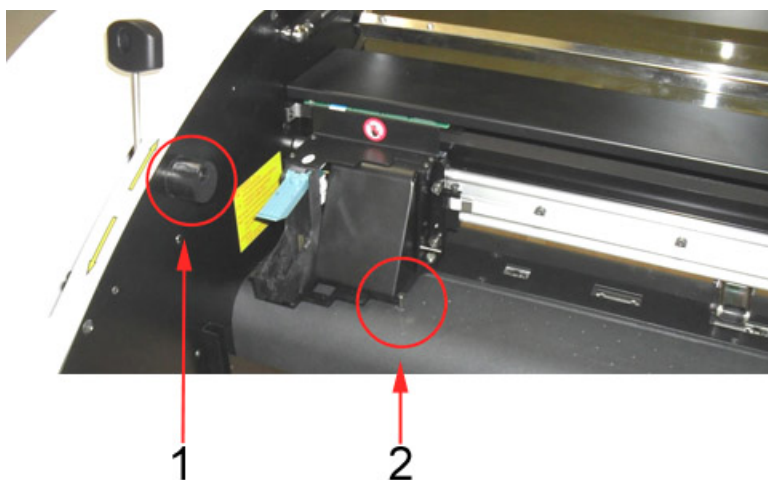

Figure 12. Left side Rubber Stop and Screw
11. During shipping, the **Front Cover** can shift and sometimes lose its alignment. If it is not lying flat, twist the **Rubber Stops** located underneath the left and right of the **Front Cover** until it rests evenly on both sides (Figure 12).
12. Remove the Screw next to the Inkjet Cartridge Holder (Figure 12).